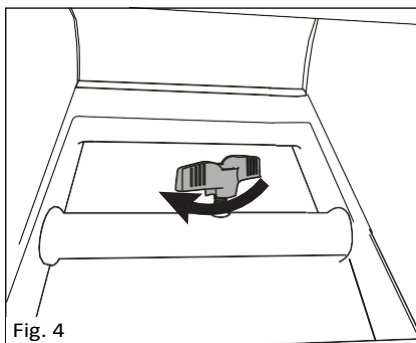

Fig. 4
- Place the second wheel (12) on the protruding end of the axle (16) and secure in place with the wheel washer and nut. Tighten the nut.
**Note:** By tightening the wing bolt on the axle frame (fig. 4) the axle (16) will be held in position and allow the wheel nuts to be tightened fully.